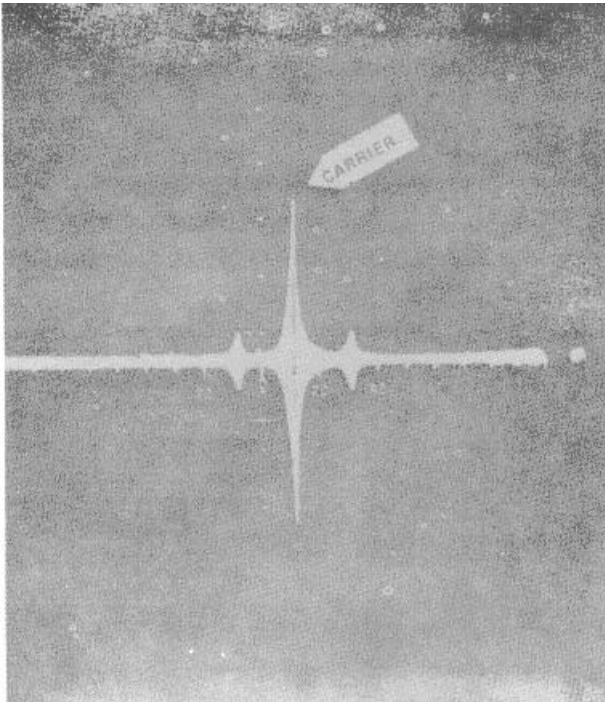
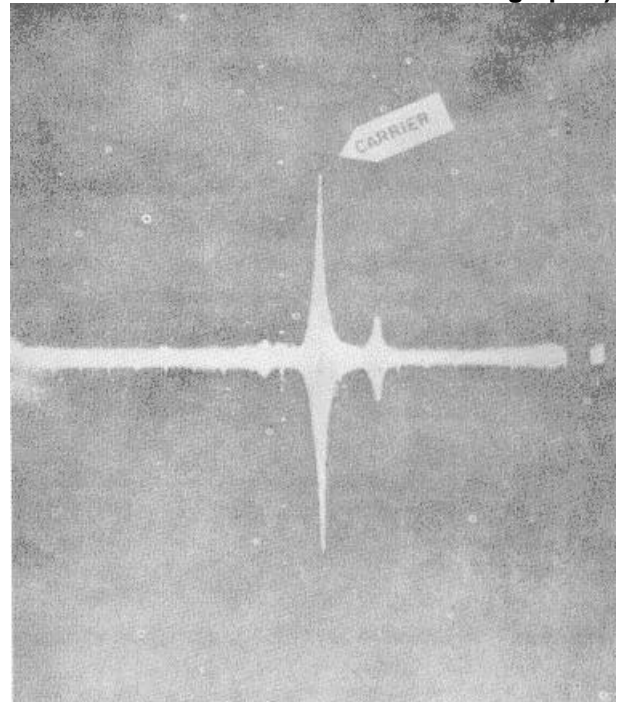

Figure 2-19. Frequency Spectrum with 400 Cycle 30 % Modulation at 240 kc on Band D
Figure 2-20. Frequency Spectrum with 400 Cycle 30% Modulation at 660 kc on Band D
a. Some incidental frequency modulation is present in the RF Signal Generator Set AN/URM-25B, as in other amplitude modulated type signal generators. Figures 2-19 through 2-22 were taken at the Naval Research Laboratories in Washington, D. C., and show the carrier and side bands of a previous model of this signal generator at the frequencies indicated when 30% modulated at 400 cycles. Figure 2-19 shows the carrier and a single pair of sidebands. This condition of low incidental FM is generally characteristic of the AN/URM-25B for most carrier frequencies at low degrees of modulation. As a slight degree of frequency modulation develops, the two side bands become unequal in amplitude. This is shown in Figures 2-20 and 2-21. With the presence of increasing degrees of incidental frequency modulation, additional side bands develop. This is represented in Figure 2-22.